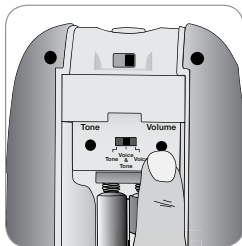

Fig. 6
3. Press VOLUME button (Fig. 6) to scroll through both the volume selections.
5. Each time you press the button, the volume changes and a two (2) second sample plays.